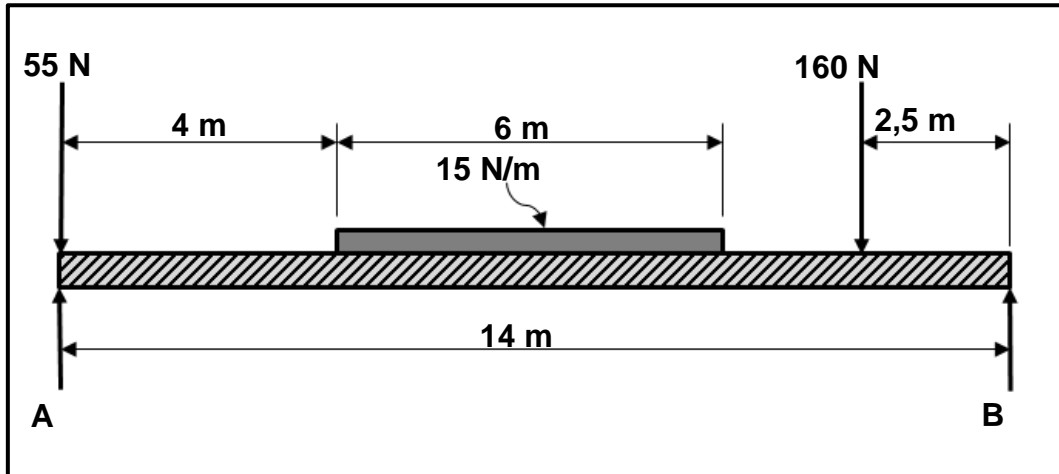

FIGURE 8.2
- 8.2 FIGURE 8.2 below shows a uniform beam that is supported by two vertical supports, **A** and **B**. Two vertical point loads and one uniformly distributed load (UDL) are exerted onto the beam.